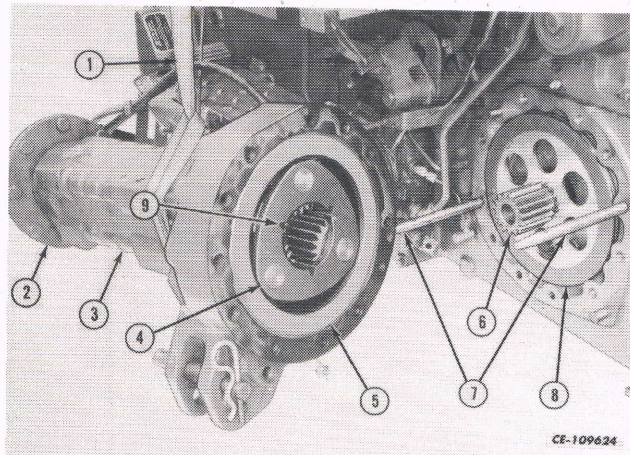

Fig. 3
2. Remove the planetary drive shaft (6). Remove the brake disc (8) from the shaft. See Fig. 3.